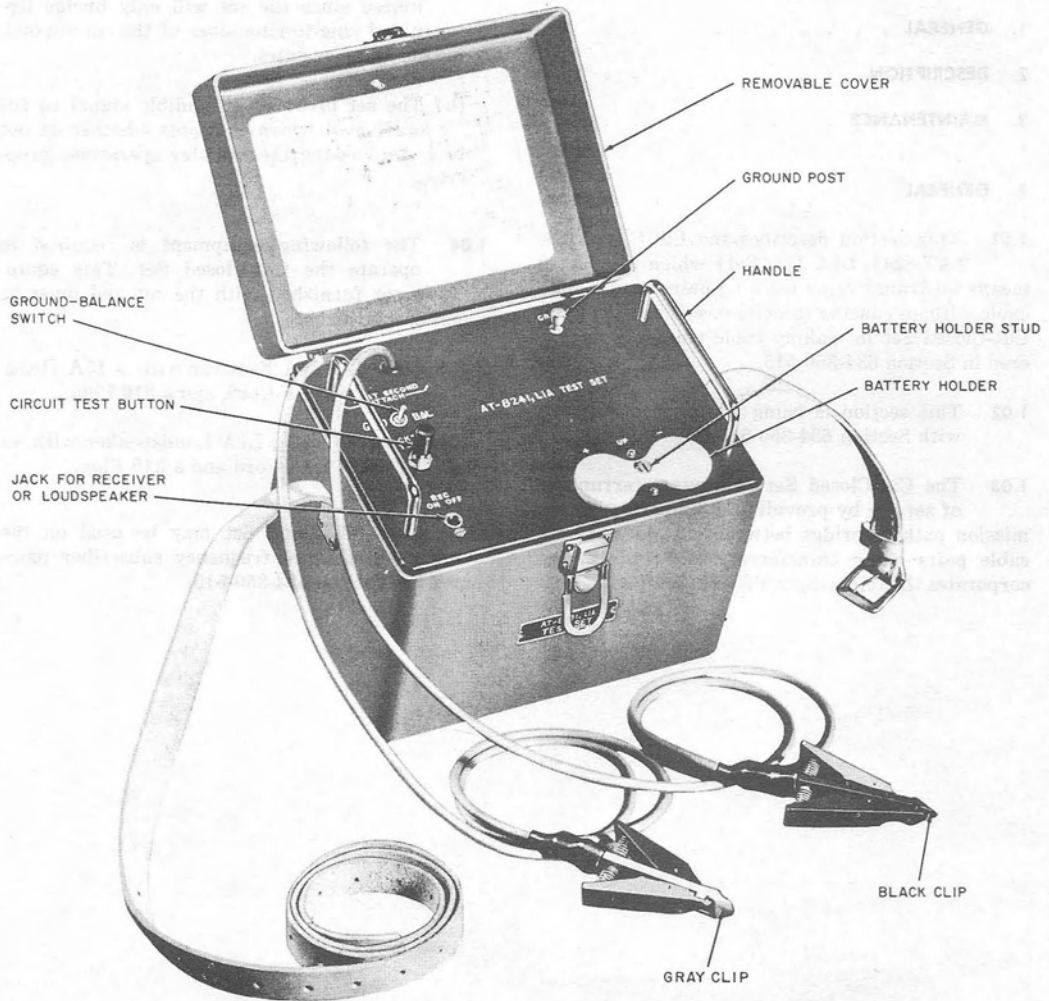

Fig. 1 — Cut-Closed Set
2.01 The Cut-Closed Set (Fig. 1) is a portable, battery-operated test set housed in an aluminum case 8 by 10 inches wide and 9 inches high. The case is equipped with leather carrying straps which may also be used to support the set